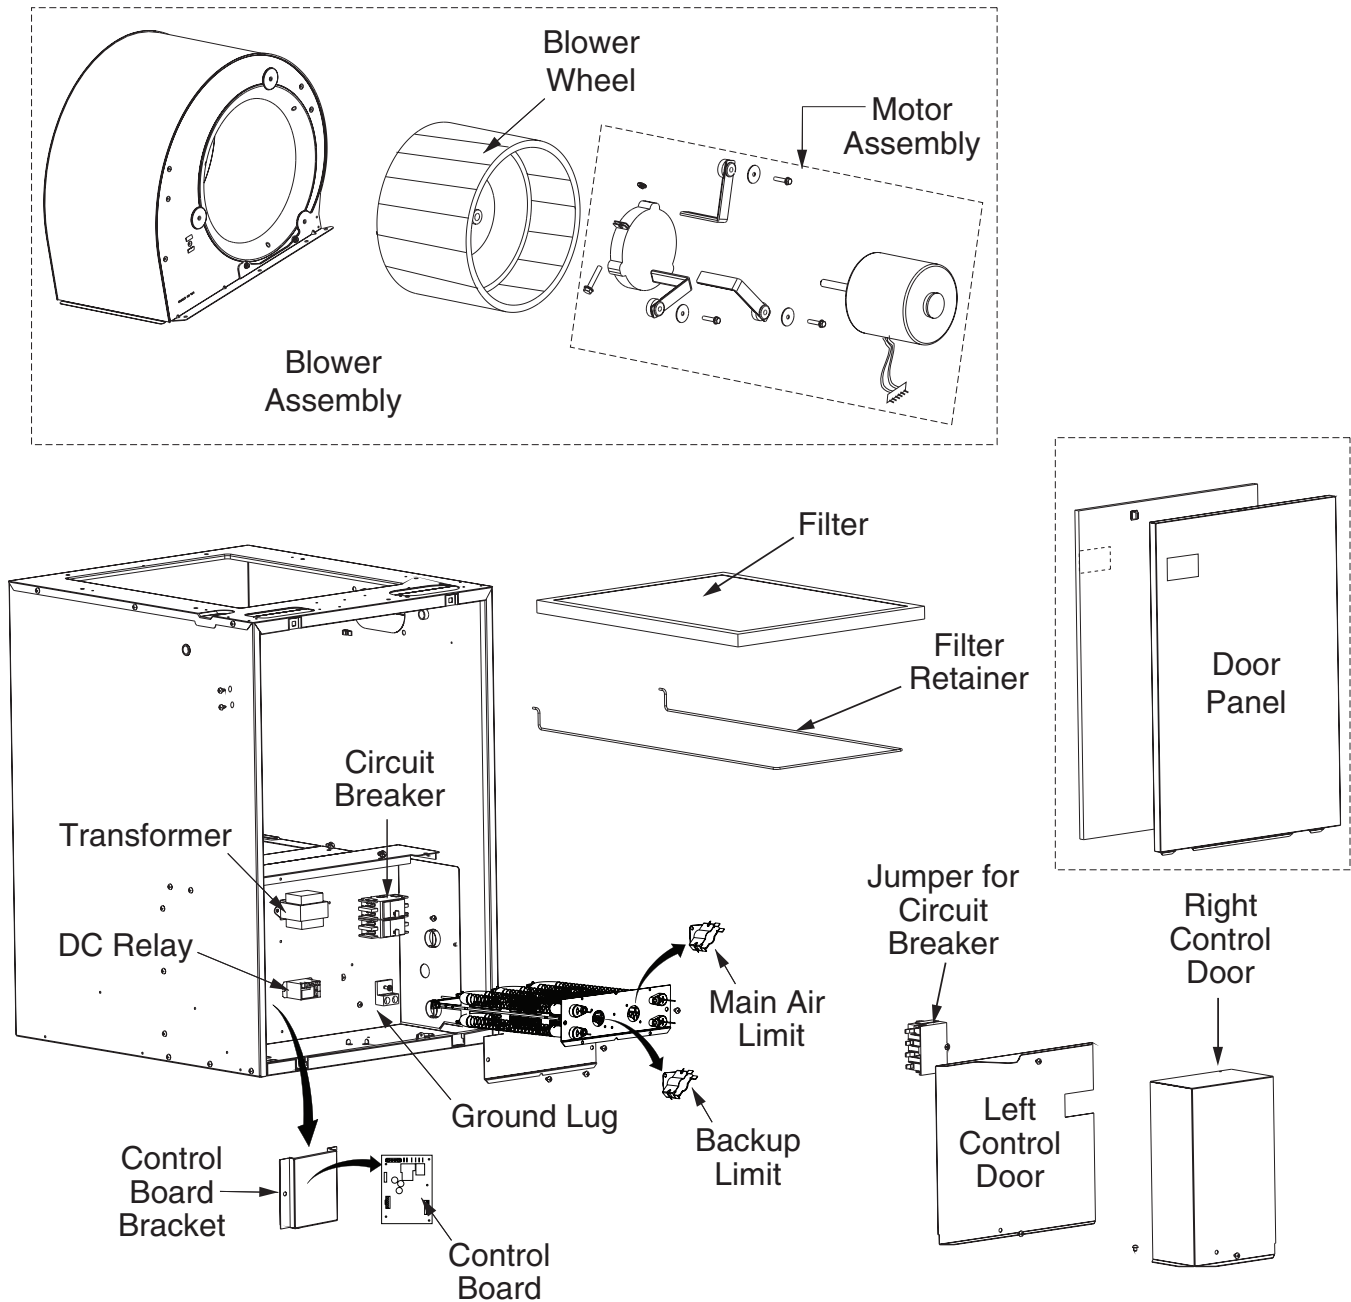

Figure 16. E7 Appliance Components
containing the correct fuse or circuit breaker for the Appliance. For minimum circuit ampacity and maximum over-current protection, see Table 7. See unit wiring diagrams (Figure 23 \(page 19\), Figure 24 \(page 20\), Figure 25 \(page 21\), Figure 26 \(page 22\) & Figure 27 \(page 23\)) for wiring details. Electrical components are shown in Figure 16 \(page 12\). Supply circuit requirements are listed below:
7. Connect service ground wire(s) to grounding lug(s) provided. See Figure 16 (page 12). One ground is required for each supply circuit used.